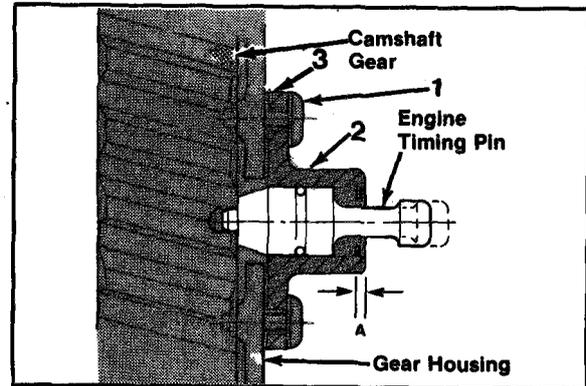

Figure 6-1
1. Using a T-25 Torx tool, remove two screws (1, Figure 6-1).
2. Remove timing pin housing (2).
3. Remove gasket (3). Remove all gasket material from mounting surfaces.